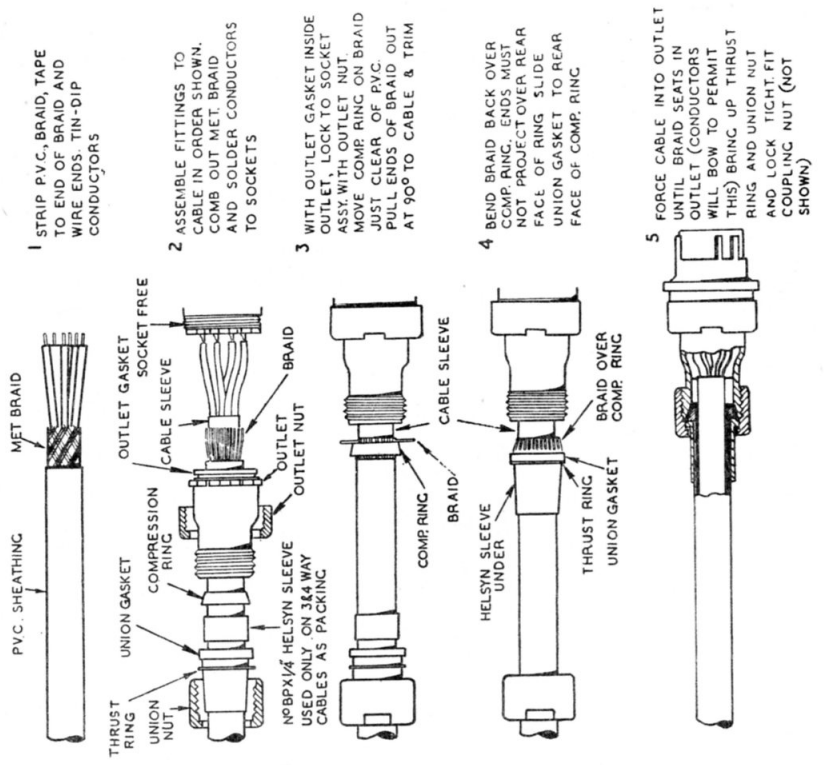
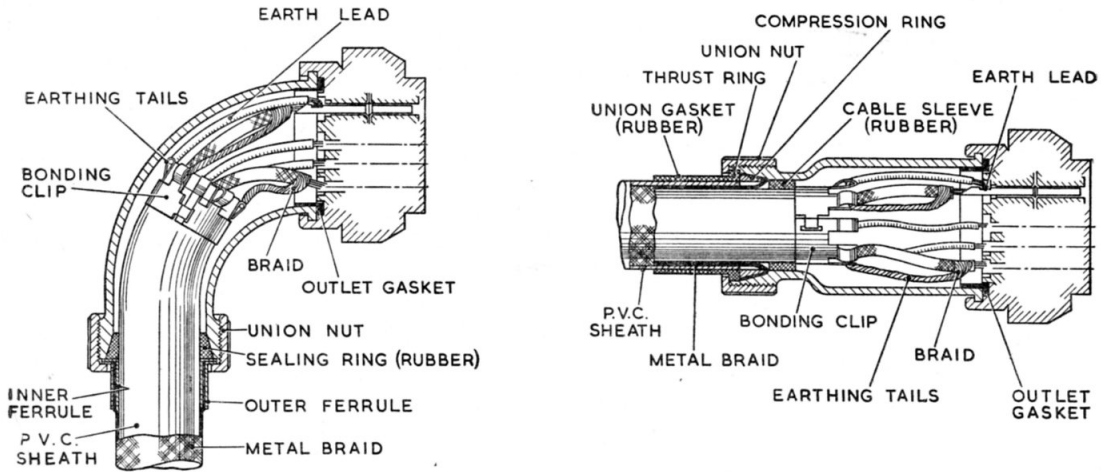

Fig. 10. Method of wiring plugs and sockets
Fig. 12. Method of wiring 2kV cable units
pression ring, union gasket and rubber cable sleeve; these can be seen in fig. 10. The bonding clips shown in fig. 12 are required with 2kV units only.
19. Fig. 10 illustrates the sequence of operations when wiring Mk. 4 miniature plugs and sockets with vinmetsmall and metvinsmall cables, and fig. 11 gives appropriate dimensions for stripping back the braiding, sheath and conductors. It is very important that the P.V.C. should not be stripped back too far, as this will result in a faulty outlet seal and permit the ingress of moisture. The cables should be drawn a sufficient distance through the appropriate outlet fittings to enable the soldering operation to be performed.
26. The recommended method of earthing metal braid screening on 2kV connectors is shown in fig. 12; this method is equally applicable to 6 and 18-way plugs and sockets. The bonding clip is fitted tightly round the cable; the earth lead (a short wire covered with P.V.C.) is inserted in the slot in the socket, and soldered. At the other end of the lead, the earthing tails are clipped tight under the tags and soldered. The braid on the leads is combed out and twisted to form a tail close to the wire end.